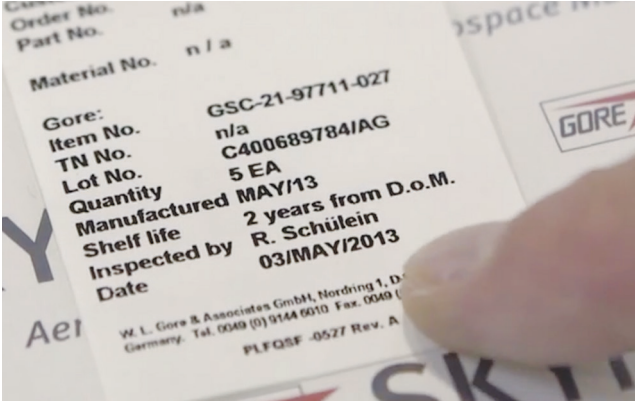

Figure 2: Verifying the shelf life and part number
1. Check the shelf life and part number of GORE® SKYFLEX® Aerospace Materials to ensure that it has not expired and that you are using the proper gasket (Figure 2).